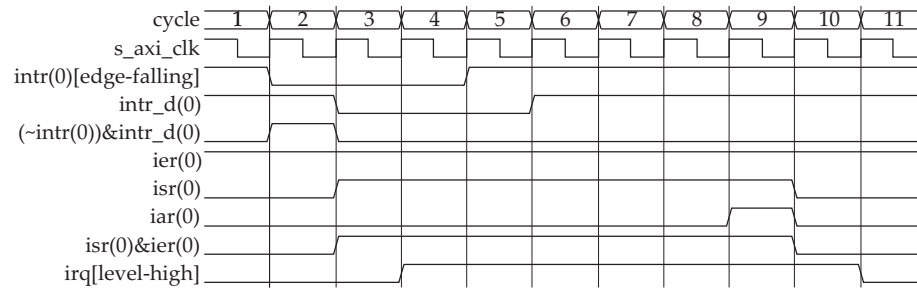

Figure 25: Input Intr - Edge Sensitive (Falling) and Output Irq - Level Sensitive (Active High)
15. Configured Input Interrupt (Intr) for Edge sensitive (falling) and Output Interrupt Request (Irq) to Level sensitive (active High) and is shown in Figure 25.